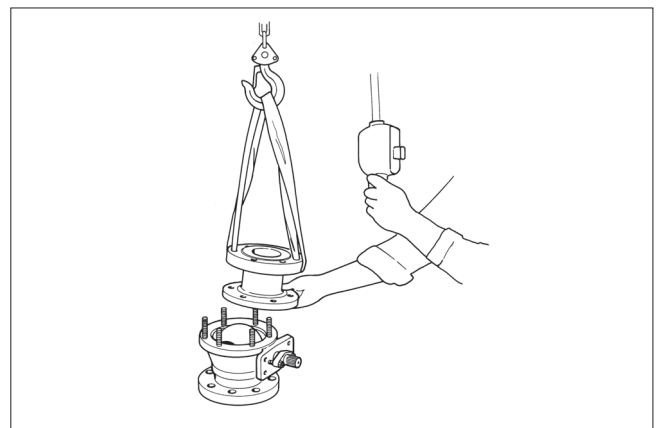

Fig. 14 Lifting the body cap
- See that the body stud nuts (16) are facing upward.
- Remove the key (10).
- Unscrew the body stud nuts (16).
- Remove the body cap (2). If the seat (7) is not lying on the ball (3), prevent the seat from falling from the body cap and detach it later. **Don't leave your fingers between the body cap and the surface!**
- Stand the removed body cap on its pipe flange. See Fig. 14.